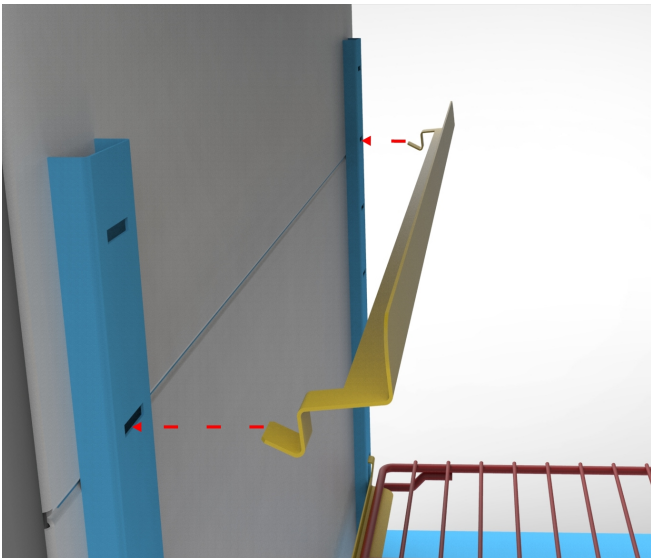

Figure 1:
1. Insert the runner into the slots in the side of the oven chamber, as shown in figures 1 and 2